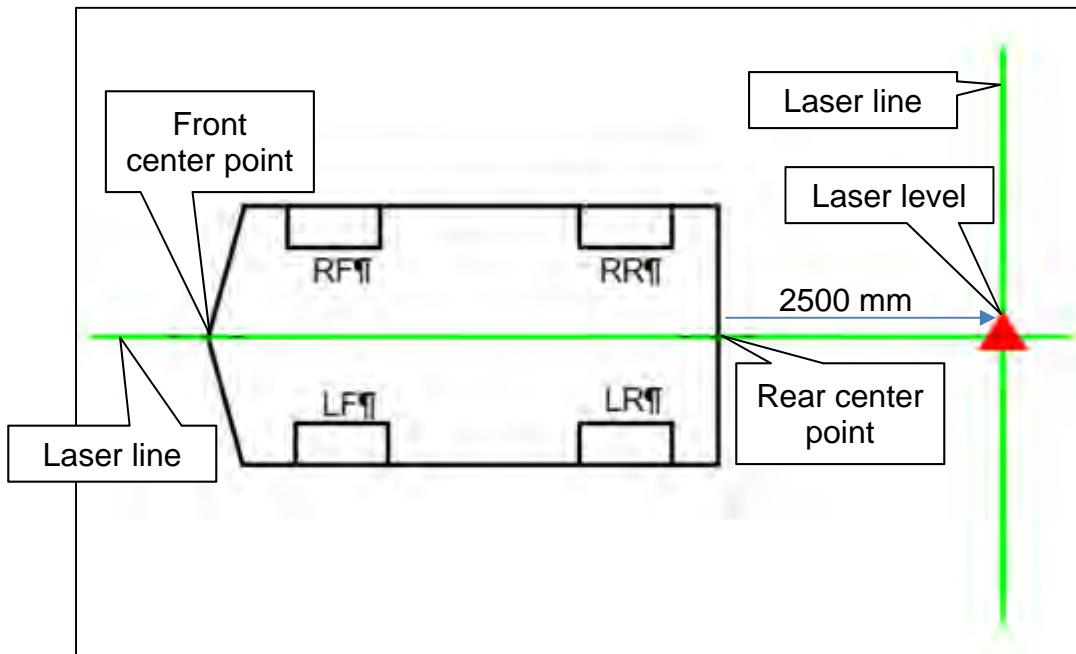
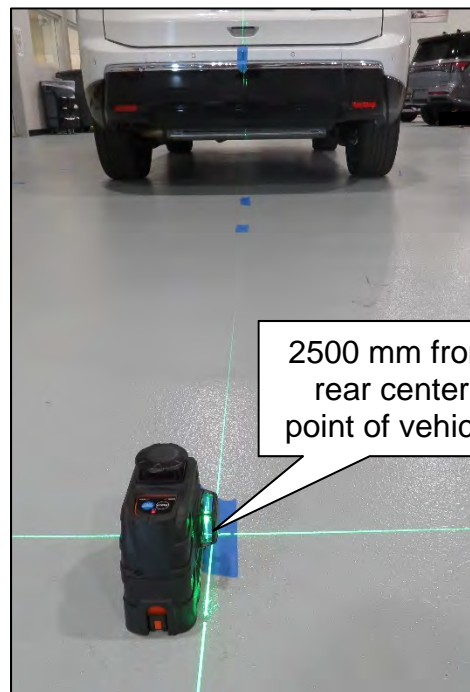

Figure 72
Figure 73
49. Place the laser level 2500 mm from the rear center point of the vehicle, and then align the laser line with both the front and rear center points, as shown in Figure 72 and Figure 73.